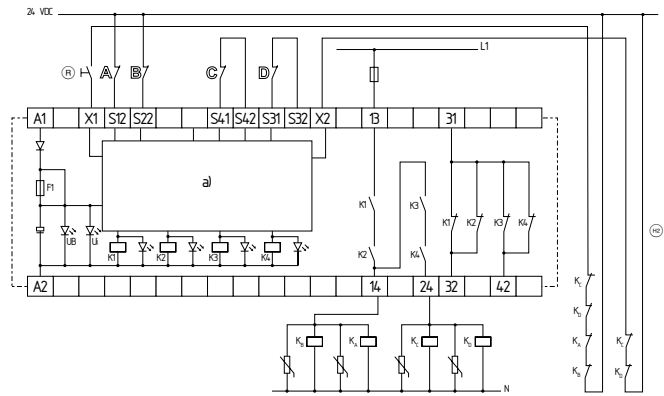

Fig. 2: SRB 202CS, 202CS/T
**Dual-channel control, shown for a emergency stop circuit; with two contacts A and B and a guard door monitor with two contacts C and D, where at least one is a positive break contact; with external reset button  $\text{\textcircled{R}}$  (related on the switch-off level 1) (see Fig. 2)**